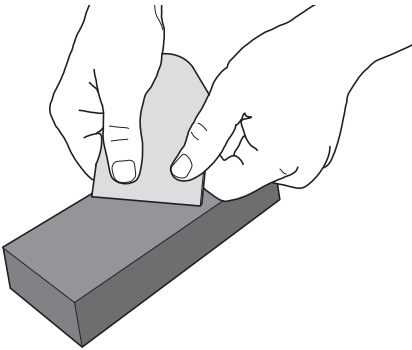
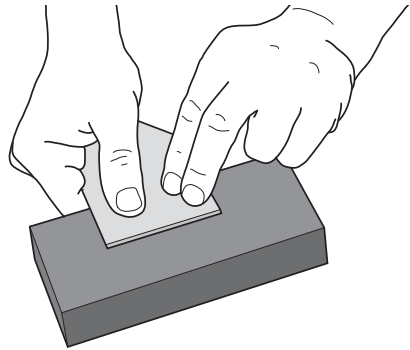

Figure 3: Honing.
Figure 4: Lapping.
Step 2 – Honing: Start with an 800x or 1000x stone to remove the marks from filing. Either an oil stone or water stone is suitable. Hold the blade as shown in **Figure 3** with the bevel flat against the stone. Stroke it back and forth, covering the whole stone. Check the bevel often to evaluate your progress. Continue until all file marks are gone. As shown in **Figure 4**, lap the face of the blade near the cutting edge to achieve the same finish as on the bevel. A sharp edge can only be achieved by creating two intersecting surfaces honed to the same degree. Using the same technique, transfer to a 4000x water stone or hard Arkansas oil stone to finish honing. The Veritas Power Sharpener or a bench-top belt sander with 320x (40µ) followed by 1200x (9µ) abrasive will provide the same results a bit faster.